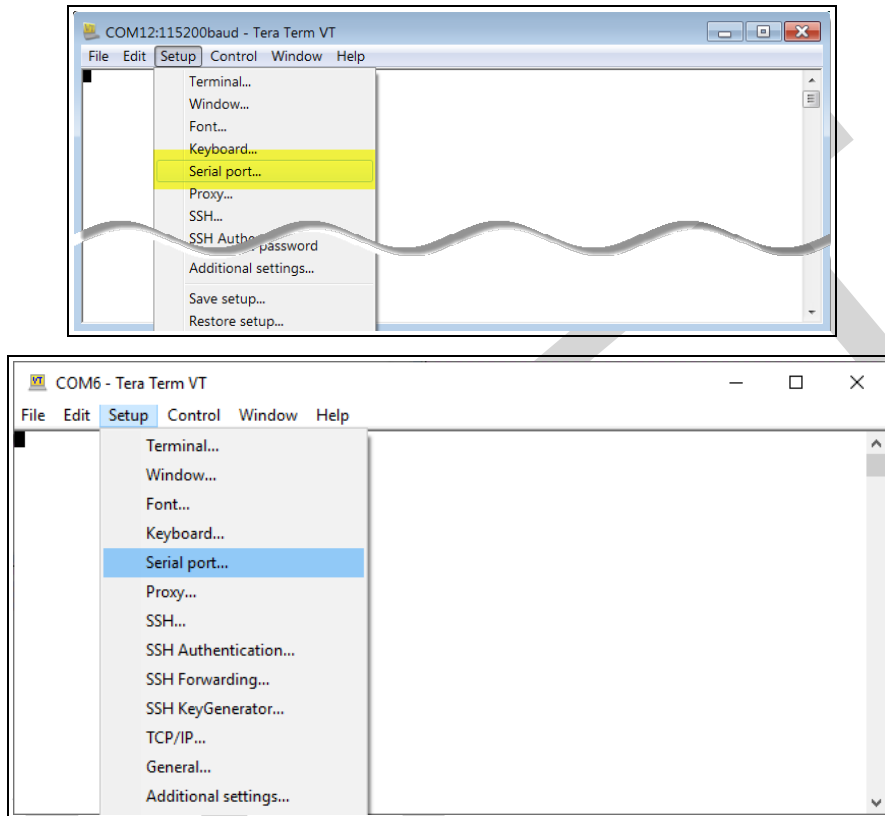

Figure 22: Setup menu > Serial Port
7. In the **Tera Term** window, click the **Setup** menu and select **Serial Port**. Figure 22